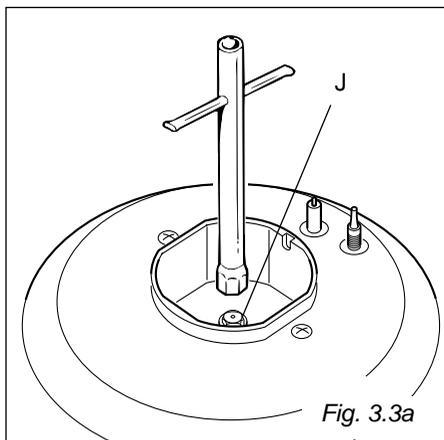

Fig. 3.3a
- Using a wrench, substitute the nozzle injectors "J" (fig. 3.3a, 3.3b) with those most suitable for the kind of gas for which it is to be used.